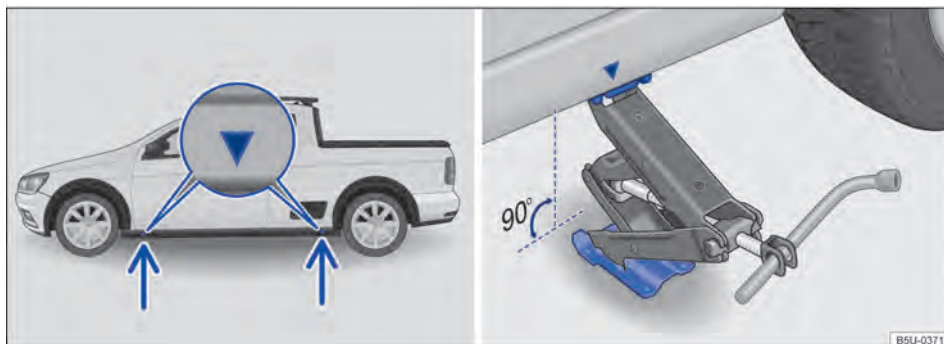

Fig. 205 Jacking points and vehicle jack at the rear left-hand side of the vehicle.
The jack may be applied only at the jacking points shown (markings on the body) → Fig. 205. Always use the jacking point closest to the wheel you are working on → .
7. Find the jacking point under the vehicle → Fig. 205 closest to the wheel that is being changed.
9. Ensure that the entire surface of the foot of the jack is resting securely on the ground and that the foot of the vehicle jack is positioned precisely below the jacking point → Fig. 205.
10. Align the jack and, at the same time, raise the vehicle jack claw until it engages with the cross piece under the vehicle → Fig. 205.
- Fit the vehicle jack only at the points described. The vehicle jack claw must fit securely into the side member rib → Fig. 205.